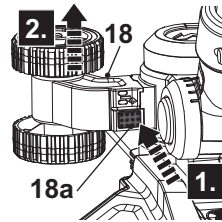

Fig. 3
2. Press the release button (18a) and remove the edger wheel (18) from the edger support (14a) (Fig. 3).